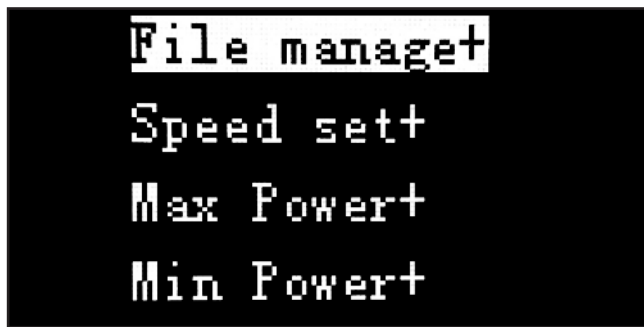

Figure 40. Main menu screen.
5. Press Menu button. Main menu screen will open (see **Figure 40**).